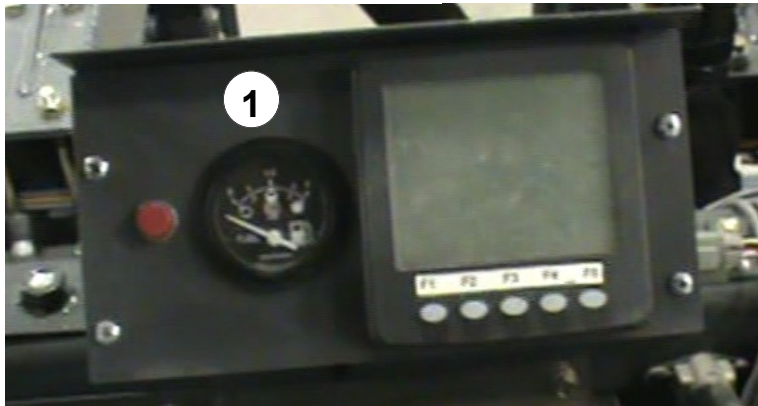

FIG 5.62
Fuel Gauge - (fig. 5.62, item 1) The fuel gauge measures the amount of fuel in either fuel tank, depending on the tank selected with the fuel switch. A "YELLOW" indicator light alerts operator of low level operation.